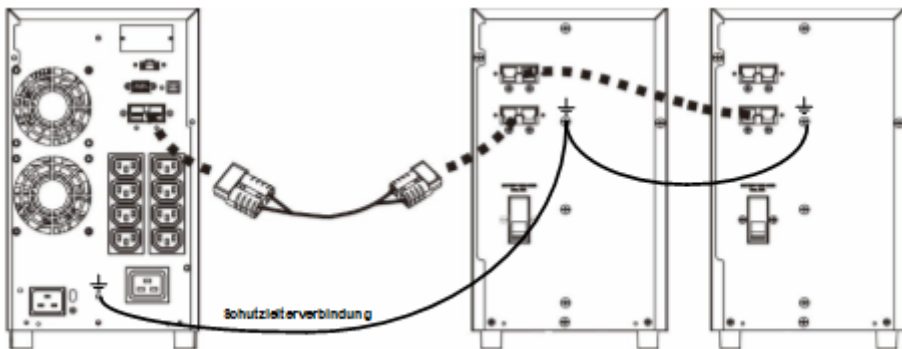

Fig. 5-4 Connection of the UPS (left) to the external battery bank(s).
Generally, the external battery bank of this device series has the required connection cable for the UPS coupling. A lengthening of this connection is not intended. These battery banks are also equipped with an additional parallel port (DC) in order to be able to additionally employ an external battery bank until the desired capacity (or autonomous time) is achieved. See the corresponding illustration (Fig. 5-4).